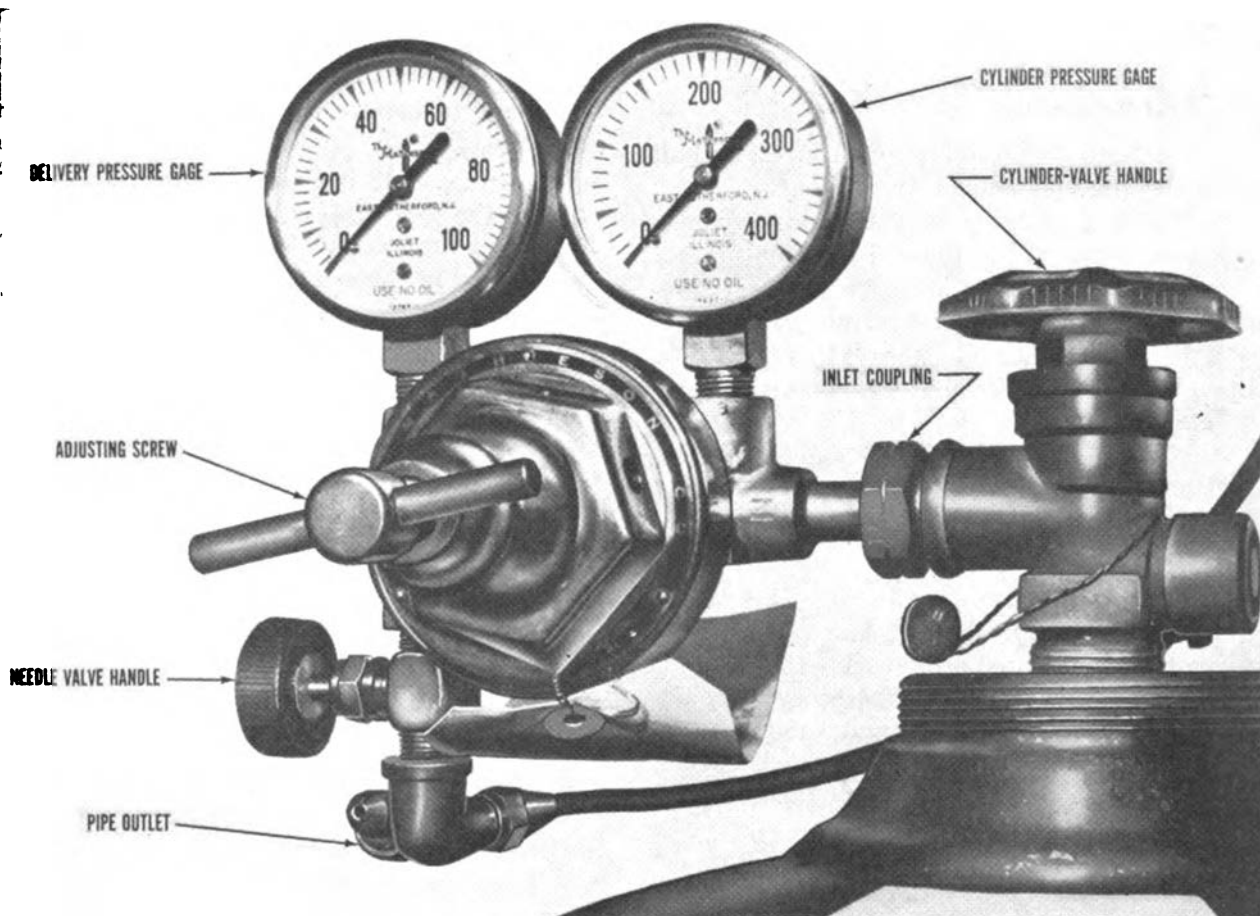

Figure 38. Pressure regulator and gages.
- (1) *Description.* The steel oxygen cylinder is located in the left rear corner of the rear compartment. The 220–240 cubic-foot-capacity cylinder is in an upright position, with its base resting in a circular receptacle and the cylinder body secured to the semi-trailer by a metal band. The cylinder valve is connected to a pressure regulator (fig. 38), which is connected to the oxygen line running to the laboratory compartment.
- (2) *Controls and Instruments.*
sure to desired working pressure (fig. 38).